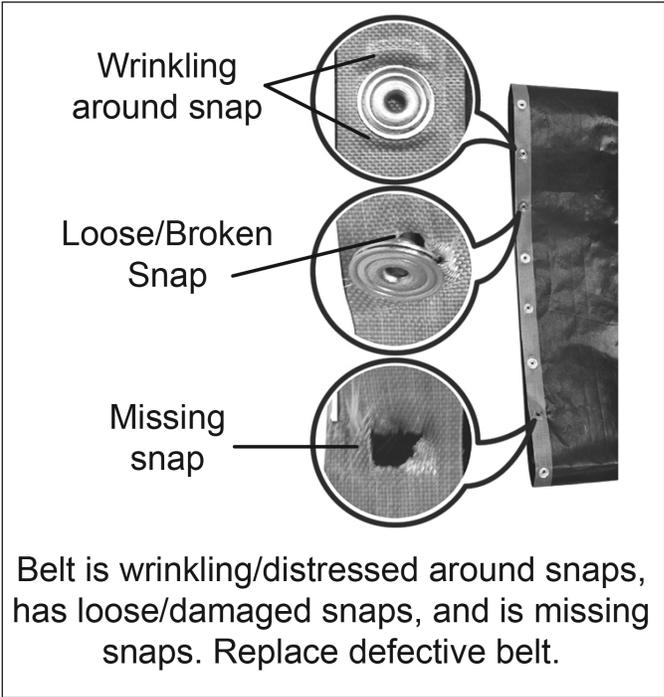

Figure 6. Examples of Damaged Belt Wraps
3. See Figures 6 - 9. Inspect the front belt for any tears, discoloration, or damage to the Belt Wrap snaps. Replace any damaged Belt Wrap as needed. With proper maintenance the Crown and Main Belt Wraps can six months or longer.
5. See Figures 6 - 9. Inspect the rear belts for any tears, discoloration, or damage to the Belt Wrap snaps. Replace any damaged Belt Wrap as needed. With proper maintenance the Crown and Main Belt Wraps can six months or longer.